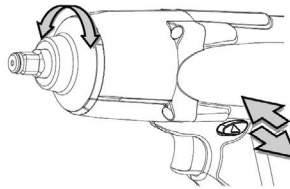

Fig. 3 Forward/Reverse Button.
4. To reverse the direction, (See Fig. 3) use the forward / reverse button on the drive unit.